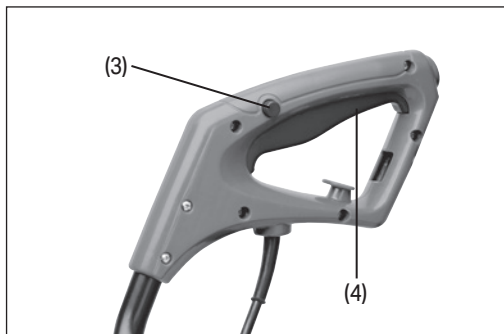

Fig. 5
7.1 ON/OFF Switch Operation (Fig. 5)